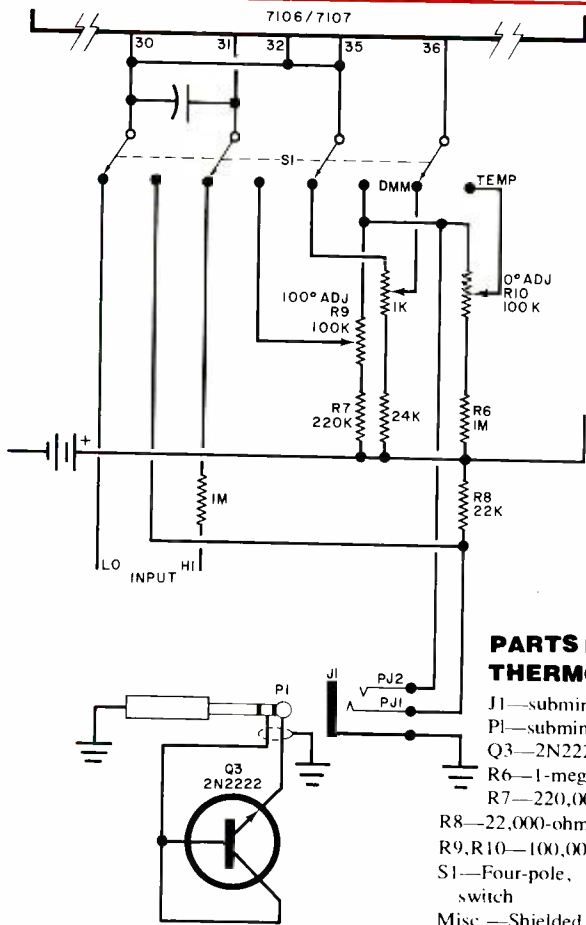

Fig. 5. By adding a switch, some passive components, and a transistor, the meter can be used as a thermometer.
**Temperature Probe.** The addition of a few components can add a temperature-measuring feature to your basic instrument. The circuit shown in Fig. 5 illustrates how this feature can be added. Note that a four-pole double-throw switch (S1) is used to transfer from regular DMM functions and the temperature function.
The temperature probe operates on the principle that a diode forward-biased at a constant but low forward current changes forward voltage linearly over a relatively wide range ( $-40^{\circ}$  C to  $+150^{\circ}$  C) at about 2 mV/ $^{\circ}$ C. In Fig. 5, the emitter of a metal-cased npn transistor is used as one diode lead, while the base/collector combination is used as the other lead. The transistor's metal case makes a convenient probe tip. (A zener diode rated at less than 20 volts would work as well.)